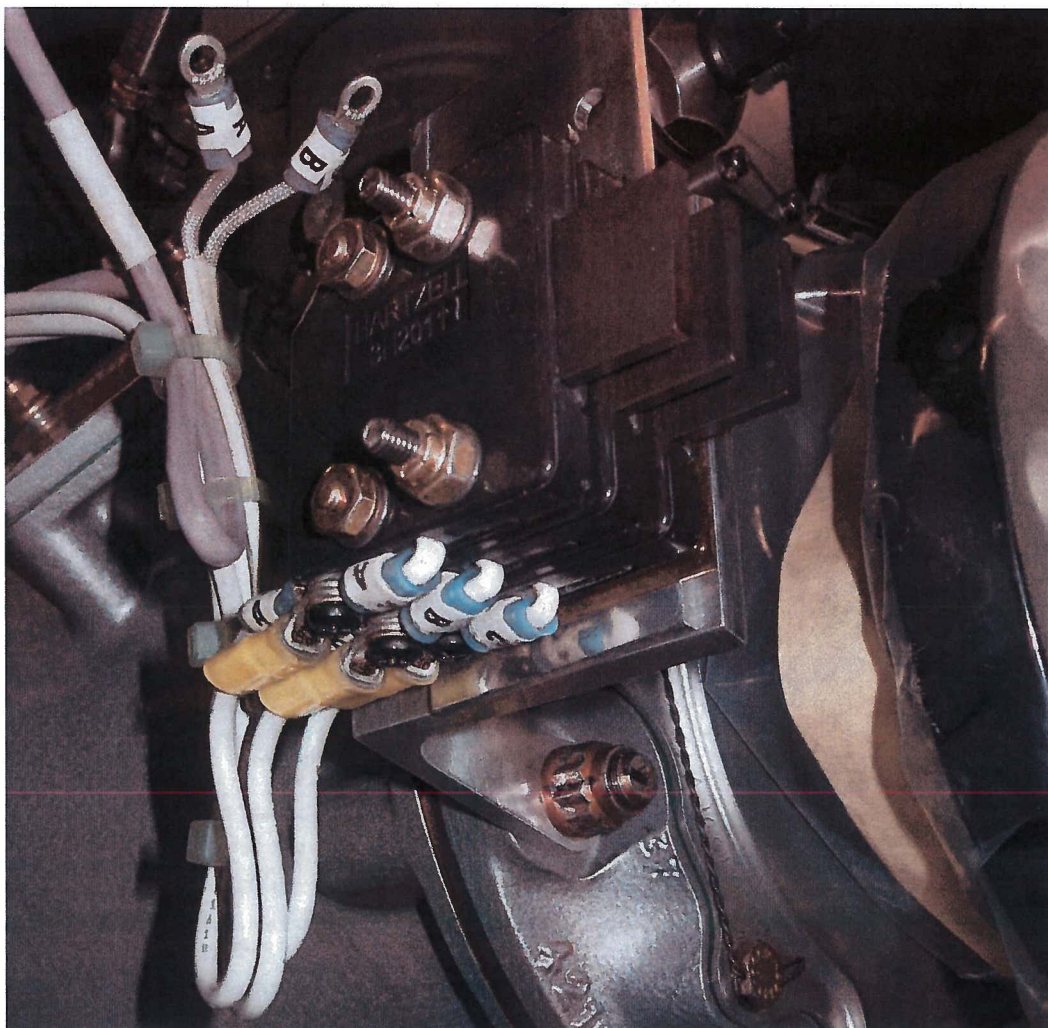

Figure 5
- f) Attach short wire harness connecting MOV module assembly (P/N 4H3076-3) to de-ice brush block as shown in **Figure 5** (shown without MOV module in this view). Simultaneously attach the aircraft wires to the brush block module as follows: